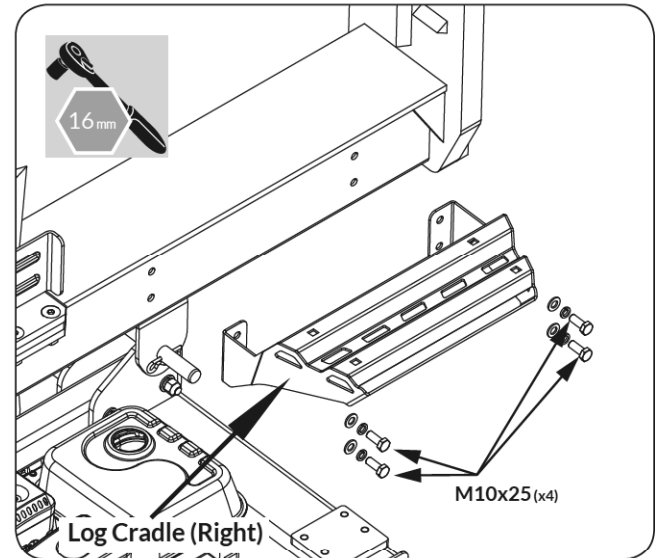

Figure 10a
1. Align the holes on the right log cradle to the holes on the beam mounts. Insert the M10x25 bolts, spring washers, flat washers and securely tighten. (See **Figure 10a**)